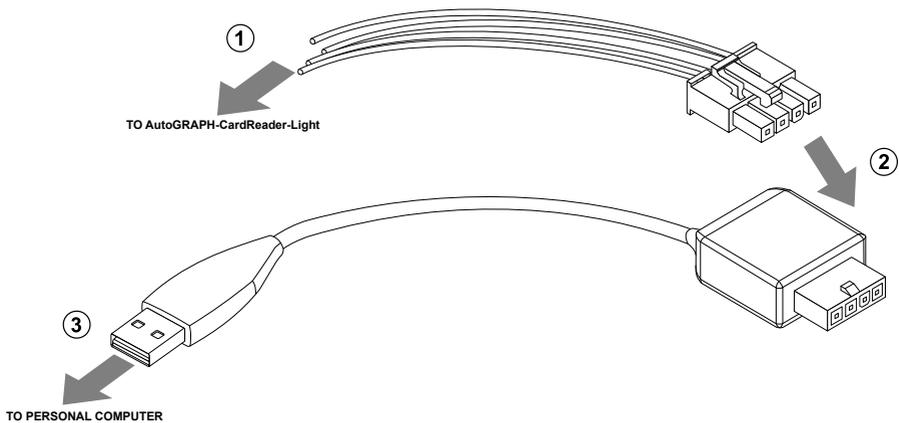

Fig.2. Connection to AutoGRAPH-CardReader-Light.
- connect the adapter to AutoGRAPH-CardReader-Light. To do it, connect RS-485 (A) and RS-485 (B) wires of the adapter to RS-485 (A) and RS-485 (B) wires of AutoGRAPH-CardReader-Light (Fig.2, step 1);
- connect the 4-pin interface connector of the adapter to the 4-pin connector of TKLS-Prog-485 converter (Fig.2, step 2);
- connect TKLS-Prog-485 converter to a PC (Fig.2, step 3);